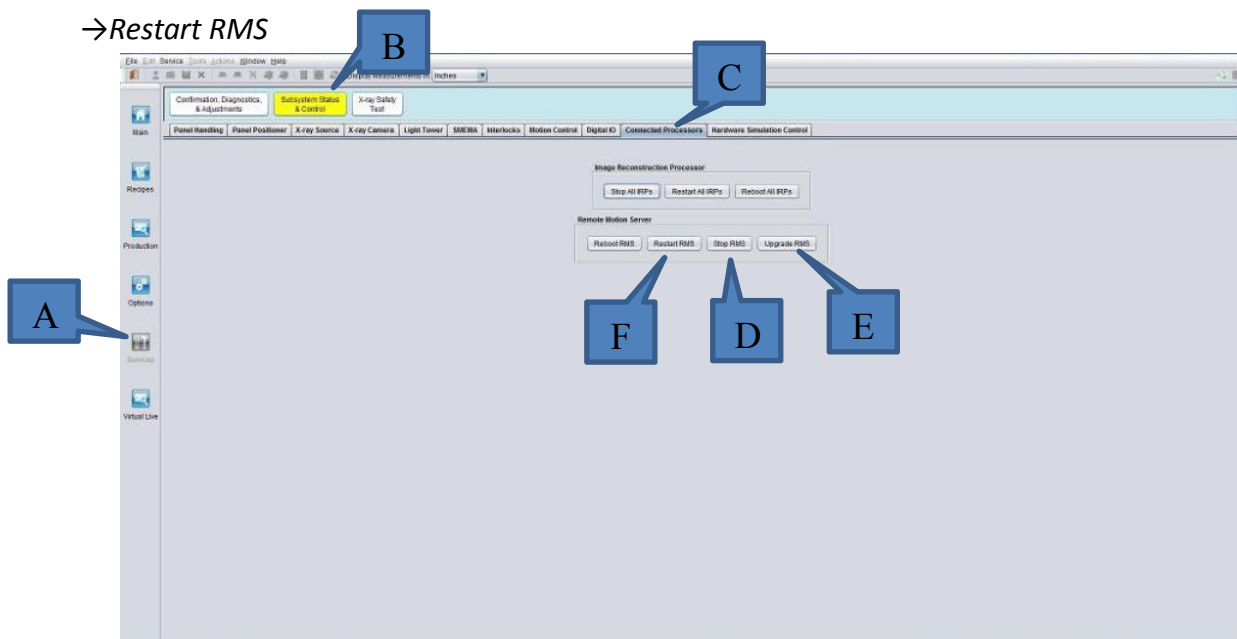

Figure 2
- Go to Connected Processor, click Stop RMS, Upgrade RMS and Restart RMS as Figure 2.